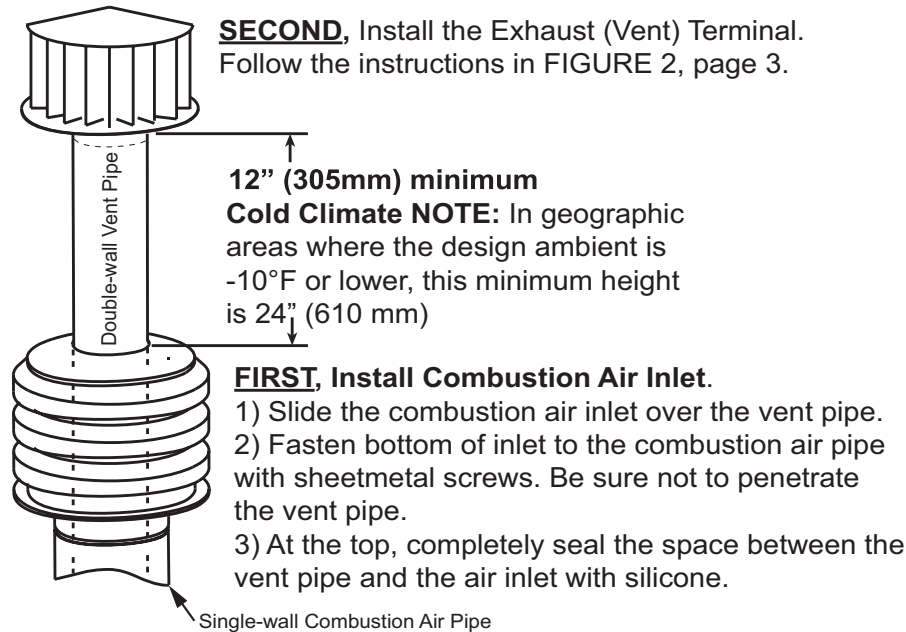

Figure 19. Combustion Air Inlet and Vent Terminal Installation
- a. On outside, slide combustion air inlet over vent pipe and fasten collar to combustion air pipe using sheet metal screws (see Figure 19).
- c. Install exhaust vent terminal (see Figure 19) in accordance with Figure 8.